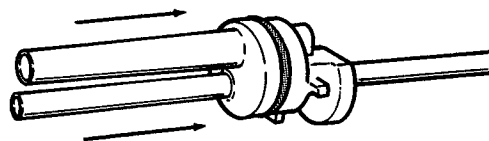

Figure 41. Carburetor "O" Ring Installation
- D. Install "O" ring on carburetor. Apply a **thin** film of sanitary lubricant to "O" ring. (See Fig. 41.)